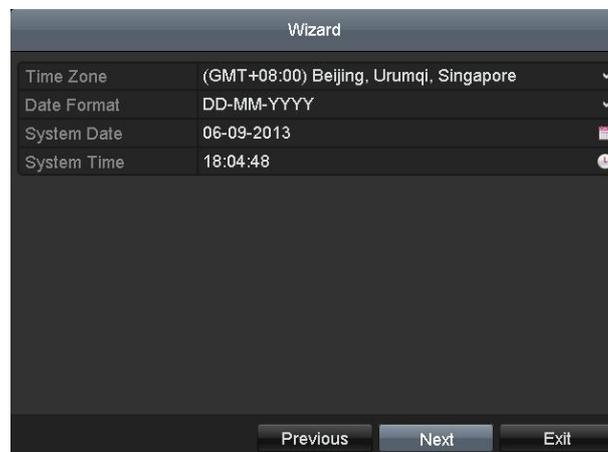

Figure 2-16 Date and Time Settings
Step 3 Click **Next** button to enter the date and time settings window, as shown in Figure 2-16.